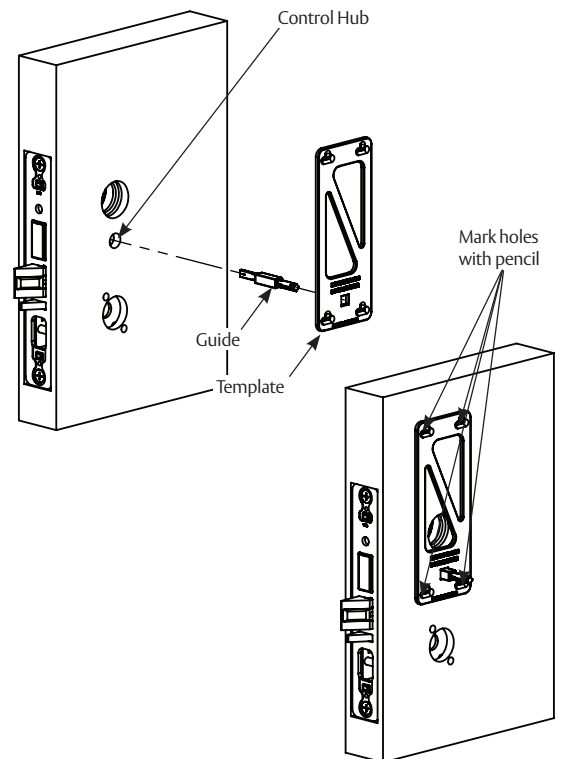

Figure 7
1. Insert template guide into control hub on side where indicator will be used. (Figure 7)